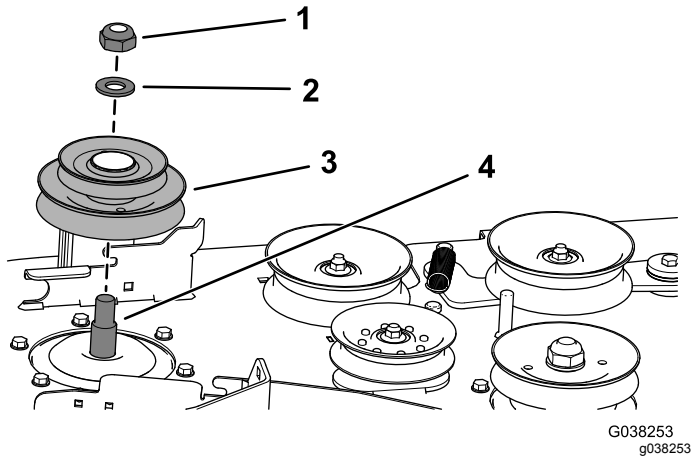

Figure 11
- A. Use the locknut (3/4 inch) and washer to secure the new double pulley onto the right spindle shaft (Figure 11).